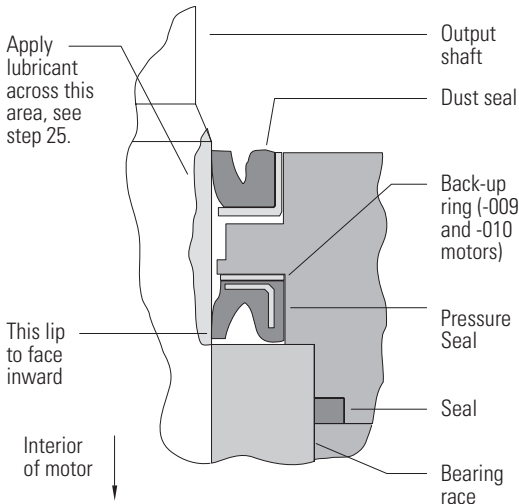

Figure 14
22. Install exclusion seal in flange, see Fig. 14 and 15. Press the dust seal into place carefully. To eliminate damage to rubber portion or distortion of metal container use a tool (flat-round face 35- 41mm[1.37 to 1.62 inch] diameter) which provides proper guiding and positioning.
25. Before installing the flange and seal assembly over the shaft, place a protective sleeve or bullet over the shaft. Lubricate space between dust seal and pressure seal, as well as lips of both seals (see Fig. 14 and 15). Install flange. Rotate flange slowly while pushing down over shaft. Be careful not to invert or damage the seals.